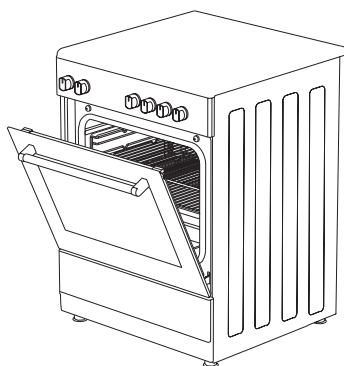

Figure 11
3. Place the safety panel under control panel by opening the oven front cover glass. (figure 11)